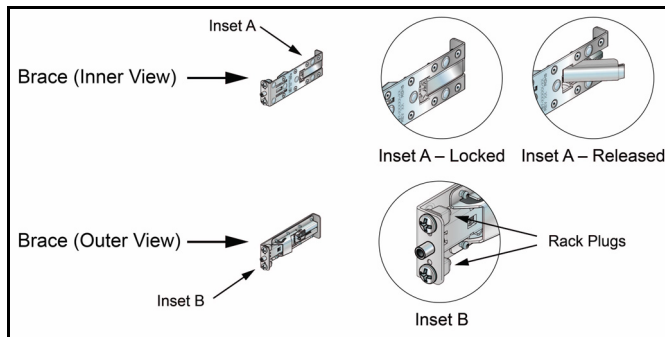

Figure 6: Mounting Ears
Figure 6 displays the mounting ears, which secure the switch top to the rack. The two mounting ears are identical and installed above each shelf. The inner side of each ear may include a latch to the locking mechanism that secures the ear to the rack.
Step 2 If applicable, close the front locking mechanism latch (Figure 6).